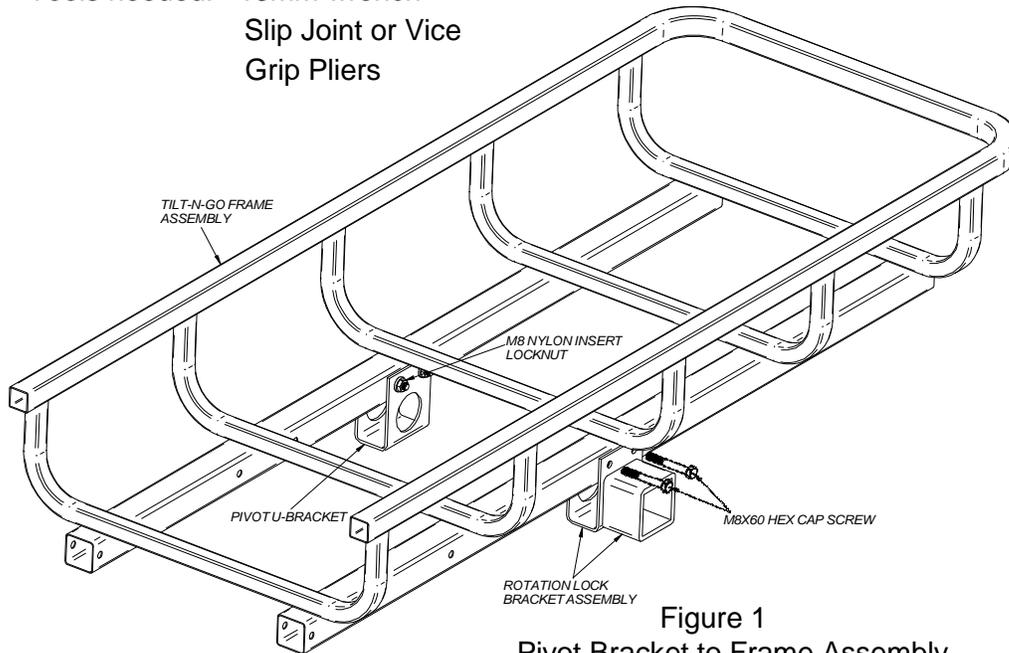

Figure 1
Step 1: Attach the pivot u-bracket and the rotation lock bracket assembly to the 38mm square tube rails as shown in figure 1. At this time you may choose whether you desire the open end to be on the left or right side of the vehicle. The setup in figure one will have the open side of the frame to the right side of the vehicle. Simply reverse the setup as desired.
Each of the brackets are attached using two M8 x 60mm hex cap screws and locknuts as shown in figure 1. Securely tighten the connections using a 13mm wrench.